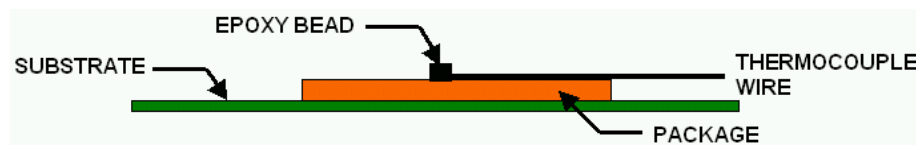

Figure 94. Technique for Measuring Tcase with a 0° Angle Attachment
- Attach the thermocouple at a 0° angle if there is no interference with the thermocouple attach location or leads (Figure 94). This is the preferred method and is recommended for use with non-enhanced packages.